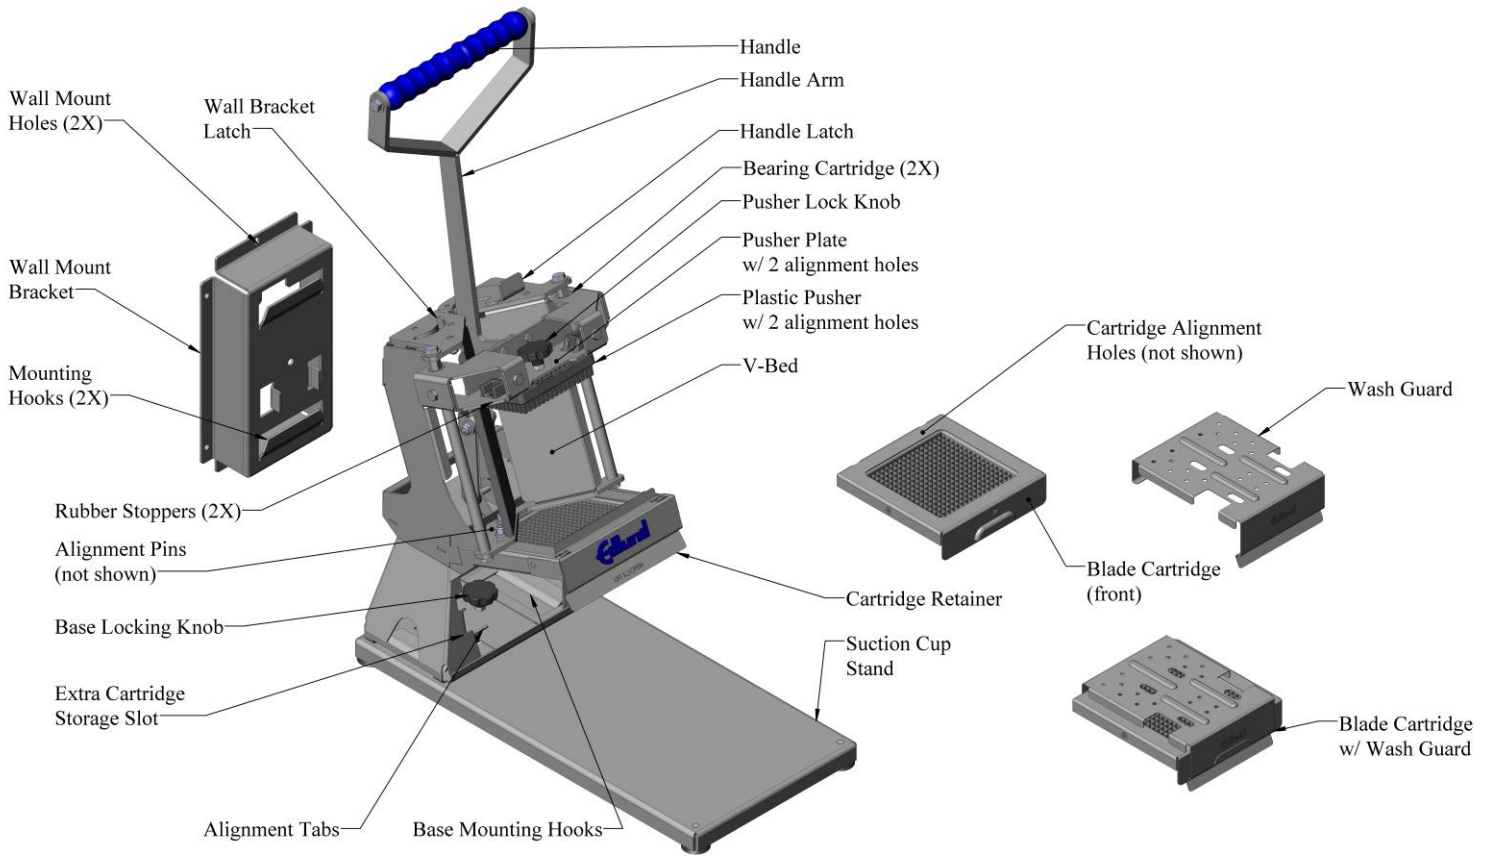

Figure 2
This chapter covers the procedures for operating your new Edlund TITAN Max-Cut and discusses basic operation features. You may find it helpful to review the Features in Figure 2 on page 9.
3. Engage the Handle Latch by rotating clockwise (Figure 2 on page 9).
4. Open the Cartridge Retainer (Figure 2 on page 9) by rotating it up. Orient the selected Blade Cartridge and slide it into the Max-Cut. The Blade Cartridge can only go into the unit in one orientation, with the Front Flange down and the Cartridge Alignment Holes towards the back of the unit.
5. Make sure the Cartridge Alignment Holes (Figure 2 on page 9) are fully seated on the Alignment Pins in the Max-Cut unit.
9. Disengage the Handle Latch by rotating counterclockwise (Figure 2 on page 9).
1. Remove any Blade Cartridges from the Extra Cartridge Storage Slot (Figure 2, page 9). See **"Using the Extra Blade Cartridge Storage Slot"** for instructions.
3. Rotate the Handle Latch (Figure 2, page 9) clockwise to secure the Handle in the upright position.
4. Place the Max-Cut on the Suction-Cup Stand, positioning the Base Mounting Hooks (Figure 2, page 9) on the Stand within the corresponding notches in the Max-Cut Base.
5. Slide the Max-Cut to the left until the Alignment Tabs (Figure 2, page 9) fully engage with the notches in the Base of the Max-Cut.
6. Turn the Base Locking Knob (Figure 2, page 9) clockwise until it is tight against the Base of the Max-Cut.
2. Remove any Blade Cartridges from the Extra Cartridge Storage Slot (Figure 2, page 9). See **"Using the Extra Blade Cartridge Storage Slot"** for instructions.
4. Rotate the Handle Latch (Figure 2, page 9) clockwise to secure the Handle in the upright position.
5. Unscrew the Base Locking Knob (Figure 2, page 9) until it disengages from the Suction-Cup Stand.
3. Rotate the Handle Latch (Figure 2, page 9) clockwise to secure the handle in the upright position.
4. Ensure the Wall Bracket Latch (Figure 2, page 9) is not engaged by rotating clockwise, to the unlock position.
5. Align the Mounting Hooks (Figure 2, page 9) with the Notches on the Rear of the Max-Cut.
7. Rotate the Wall Bracket Latch (Figure 2, page 9) counterclockwise to engage with the Wall Mount Bracket.
1. Remove any Blade Cartridges from the Extra Cartridge Storage slot (Figure 2, page 9). See **"Using the Extra Blade Cartridge Storage Slot"** for instructions.
4. Rotate the Wall Bracket Latch (Figure 2, page 9) clockwise to disengage from the Wall Mount Bracket.
NOTE: The model shown in Figure 2 may look slightly different from your Max-Cut.
2. Rotate the Handle Bracket (Figure 2, page 9) clockwise to secure the Handle in the upright position.
3. Pull the Bottom Flange of the Cartridge Retainer (Figure 2, page 9) upward to disengage from the Blade Cartridge. Rotate the Cartridge Retainer upward until it is clear of the Blade Cartridge.
5. Remove the Pusher Assembly by unscrewing the Pusher Lock Knob (Figure 2, page 9). Then slide the Plastic Pusher down, away from the bottom of the Pusher Plate.